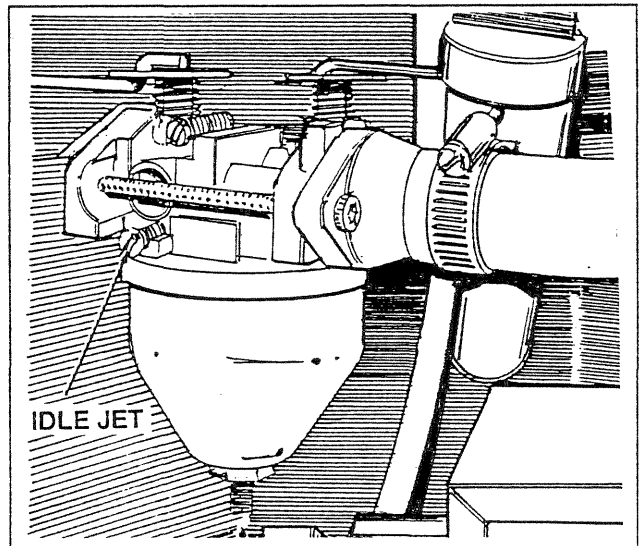

Figure 11 — Location of Idle Jet
- Carefully turn the idle jet screw (Figure 11) inward (clockwise) until it just closes.